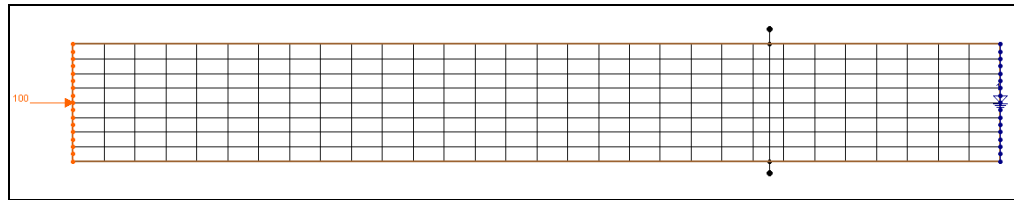

Figure 5-11 Channel #3 showing placement of observation arc.
5. Create an observation arc across the flume at about 200 m from the downstream boundary as shown in Figure 5-11.